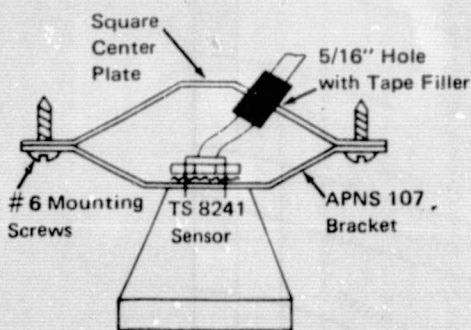

Figure 3.
- A. Fig. 3. Locate hole center on an angled surface about 5/16" from an edge of the 1/2" square so as to avoid drill contact with the welded center plate mounting brackets.
- A. Fig. 3. Drill two holes near edges of square center plate.